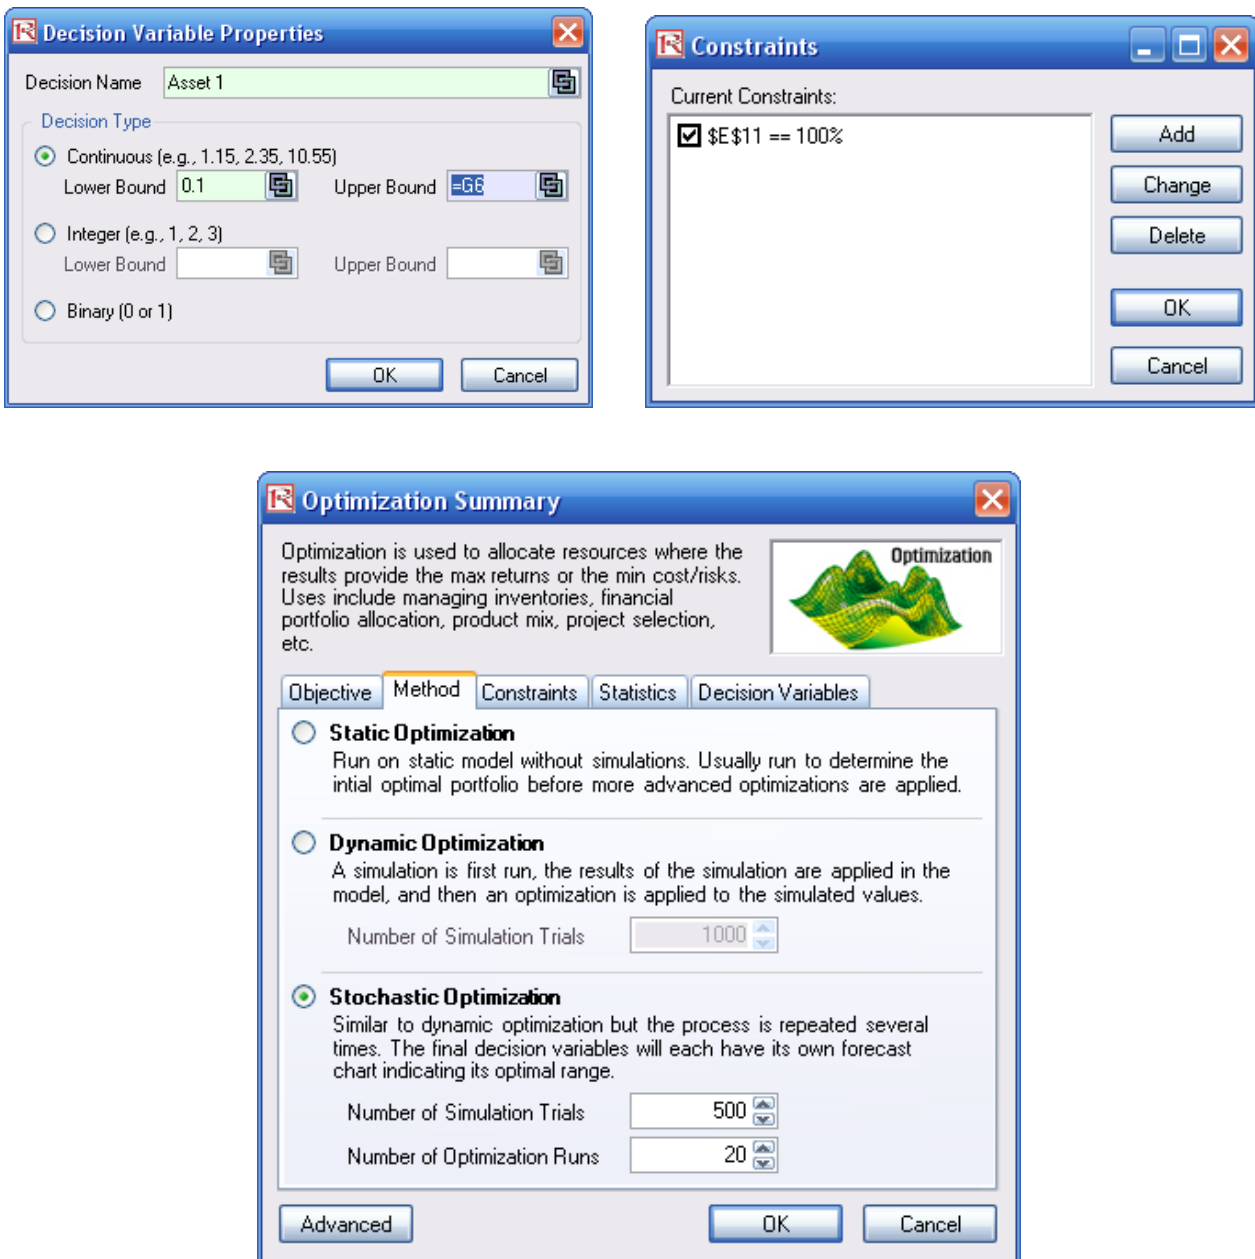

Figure 2. Setting up the Stochastic Optimization Problem
7. Run the optimization by going to *Risk Simulator | Optimization | Run Optimization*. Review the different tabs to make sure that all the required inputs in steps 2 and 3 are correct. Select *Stochastic Optimization* and let it run for 500 trials repeated 20 times (Figure 2 illustrates these setup steps).
- Super Speed Simulation with Optimization.* You can also run stochastic optimization with super speed simulation. To do this, first reset the optimization by resetting all four decision variables back to 25%. Next select *Run Optimization*, click on the *Advanced* button (Figure 2), and select the checkbox for *Run Super Speed Simulation*. Then, in the run optimization user interface, select *Stochastic Optimization* on the *Method* tab and set it to run 500 trials and 20 optimization runs, and click *OK*. This approach will integrate the super speed simulation with optimization. Notice how much faster the stochastic optimization runs. You can now quickly rerun the optimization with a higher number of simulation trials.